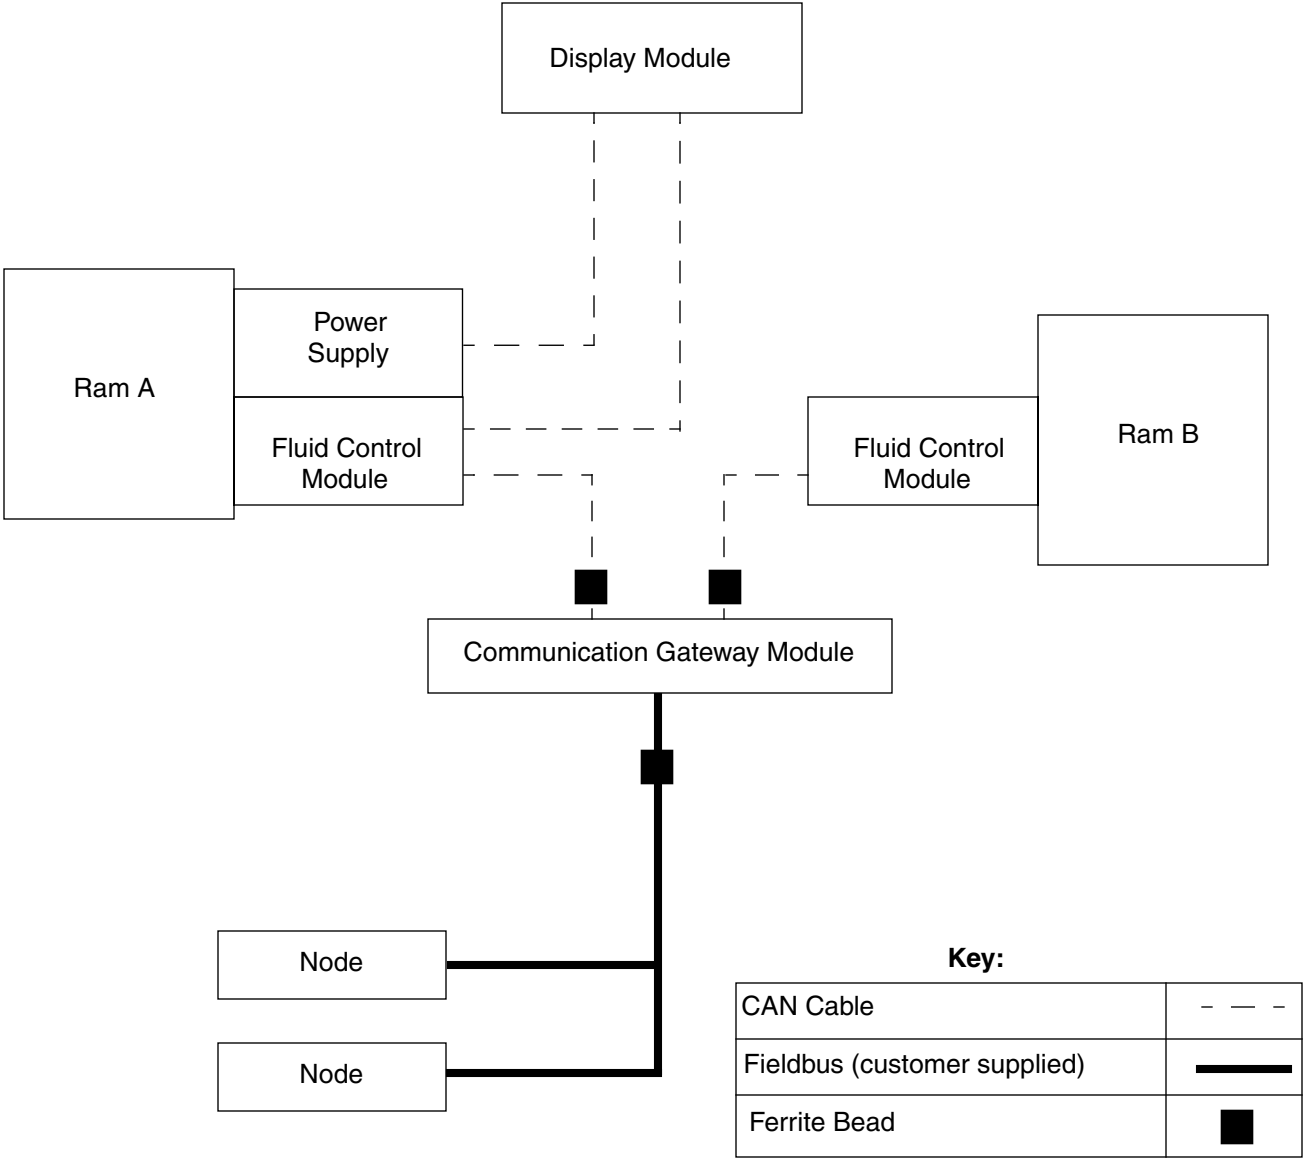
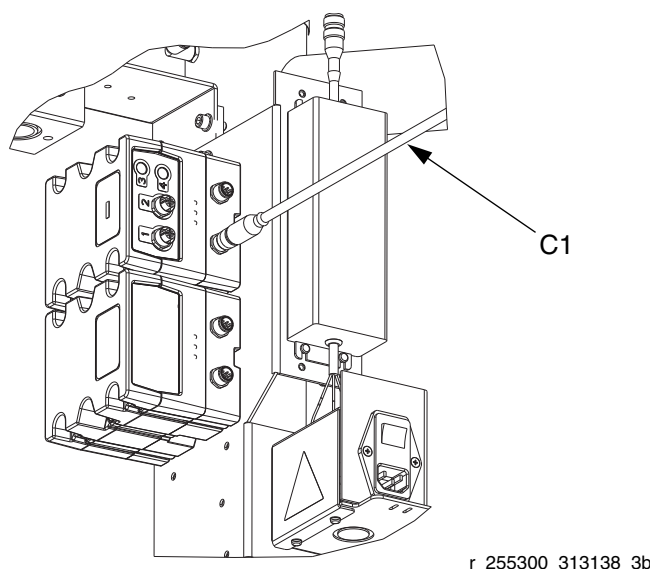
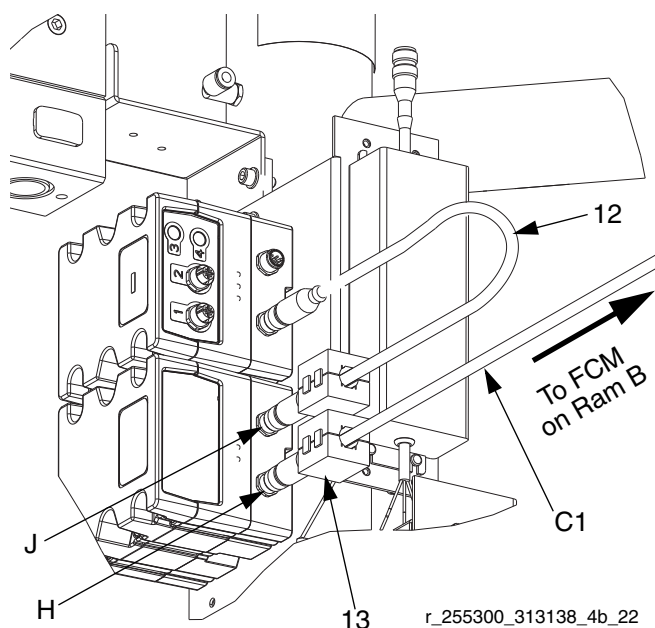
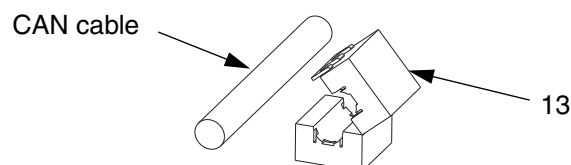

FIG. 1: Typical Installation
FIG. 4: CGM and FCM on Ram A
FIG. 5: CGM and FCM Connections on Ram A
FIG. 6: Clamp ferrite bead
9. Connect CAN cable (C1) to the lower CAN connector (H) on the CGM and fluid control module on Ram B. See FIG. 4 and FIG. 5.
10. Connect supplied CAN cable (12) to the upper CAN connector (J) on the CGM and fluid control module on Ram A. See FIG. 4 and FIG. 5.
11. Clamp two ferrite beads (13) on CAN cables adjacent to CGM. See FIG. 1 and FIG. 5 for bead locations.
16. Clamp ferrite bead (13) to fieldbus cable adjacent to CGM. See FIG. 1 on page 3 for bead locations. See FIG. 6.